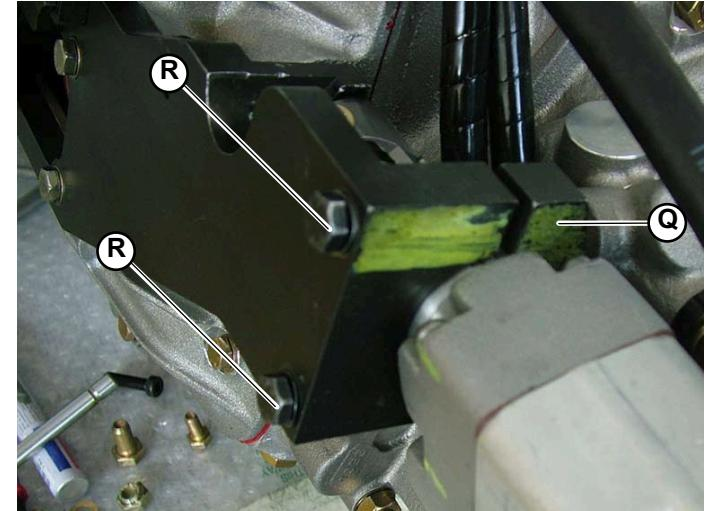

Fig.6
- Secure the reset tool on the coupling using the U-bolt (Q-Fig.6), tightening it with the 2 screws (R-Fig.6).